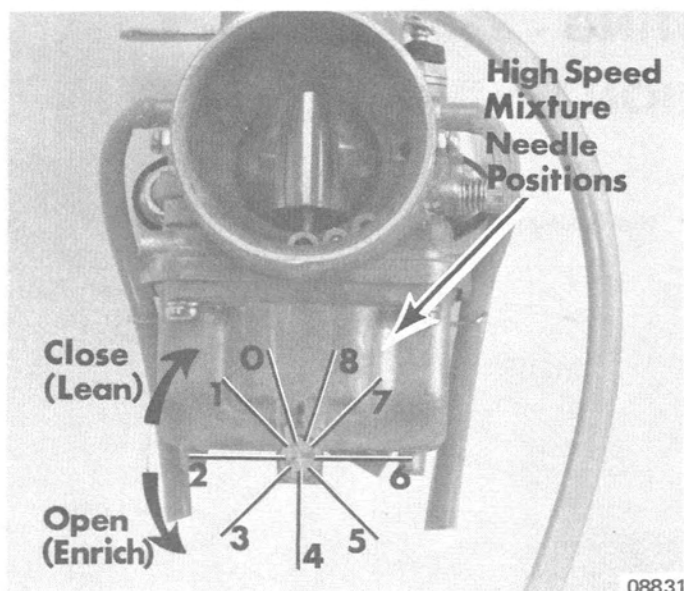
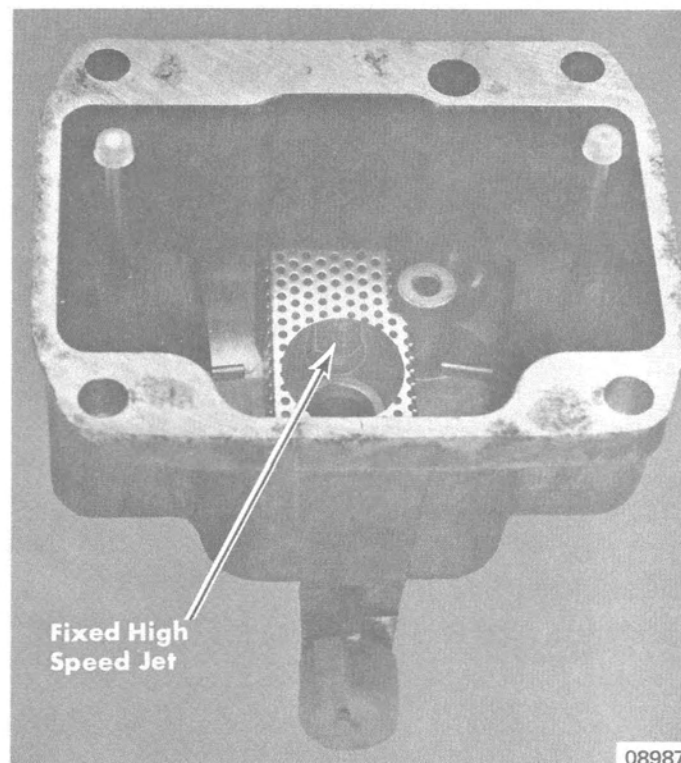

Figure 9. High Speed Mixture Needle
Figure 10. Fixed High Speed Jet
1. Each carburetor is equipped with an adjustable high speed mixture needle (Figure 9) in addition to a fixed high speed jet (located inside carburetor float bowl - Figure 10).
When the high speed mixture needles are closed (clockwise as far as possible - Figure 9), fuel is metered thru the fixed high speed jet only. As the high speed mixture needles are opened (turned counterclockwise), additional fuel (in addition to fuel metered thru fixed jet) is metered to the main discharge nozzles.